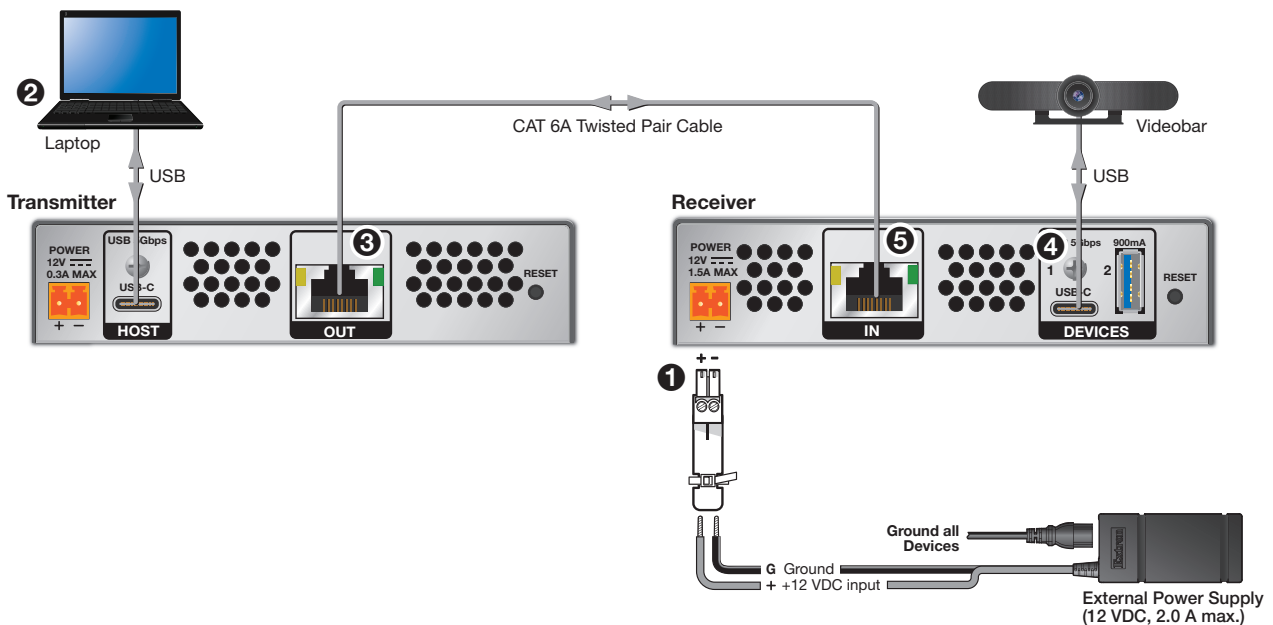
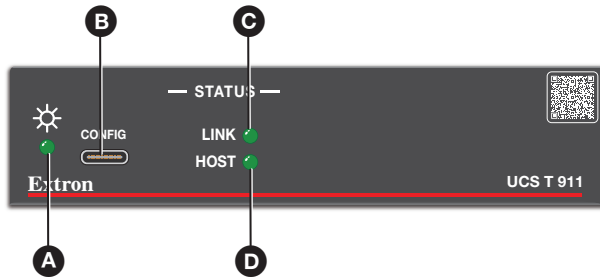

Figure 4. Transmitter and Receiver Connection with host laptop and videobar
Figure 6. Transmitter Front Panel
Figure 4 shows connections for the UCS T 911 and UCS R 912.
To ensure proper operation, the transmitter, receiver, USB host, and USB peripherals must be connected properly and in the sequence described here (see figure 4 on page 4).
2. Connect a twisted pair cable from the Output port of the transmitter to the Input port of the receiver (see figure 4, 5). The transmitter and receiver front panel LINK LEDs will light steadily (see figure 6 and 7, C, on page 6).
5. Plug the two power supply connectors into their respective transmitter or receiver rear panel connectors (see figure 4, 1). If the transmitter is going to be remotely powered by the receiver from one power supply, connect the 12 V, 2.0 A power supply to the receiver.
6. The green Power LEDs on the Transmitter and Receiver (see figure 6 and 7, A) light when each device is powered on.
7. Connect a USB-C cable from the host device (see figure 4, 2) to the transmitter HOST input. The Host LED (see figure 6, D) lights, indicating that communication between the transmitter and host device has been established.
9. Power on the host computer. On the transmitter, the HOST and LINK LEDs (see figure 6 and 7, C, D, and E) light when the computer recognizes the transmitter, and when the transmitter and receiver are connected with each other.
10. Connect up to two USB peripheral devices (such as a camera, keyboard, touchpanel or printer) to the receiver USB devices ports (see figure 4, 4).
- E Receiver Device LEDs (1 and 2)** — One or both of these green LEDs light when their respective rear devices ports (1 and 2) are connected to a USB device (figure 4, 4 on page 4).